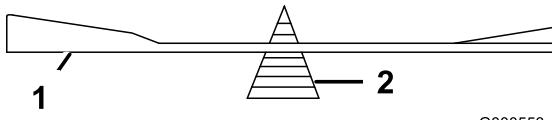

Figure 51
- 2. Check the balance of the blade by putting it on a blade balancer (Figure 51).